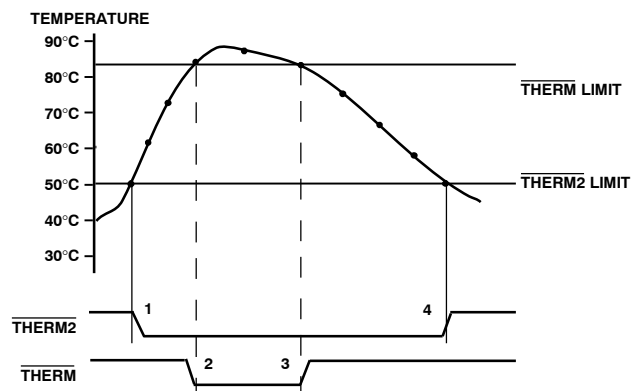

Figure 21. Operation of the THERM and THERM2 Interrupts
Pin 13 on the ADT7483A can be configured as either an ALERT output or as an additional THERM output. THERM2 will assert low when the temperature exceeds the programmed local and/or remote high temperature limits. It is reset in the same manner as THERM, and it is not maskable. The programmed hysteresis value also applies to THERM2. Figure 21 shows how THERM and THERM2 might operate together to implement two methods of cooling the system. In this example, the THERM2 limits are set lower than the THERM limits. The THERM2 output can be used to turn on a fan. If the temperature continues to rise and exceeds the THERM limits, the THERM output can provide additional cooling by throttling the CPU.
- The THERM output deasserts (goes high) when the temperature falls to THERM limit minus hysteresis. In Figure 21, there is no hysteresis value shown.